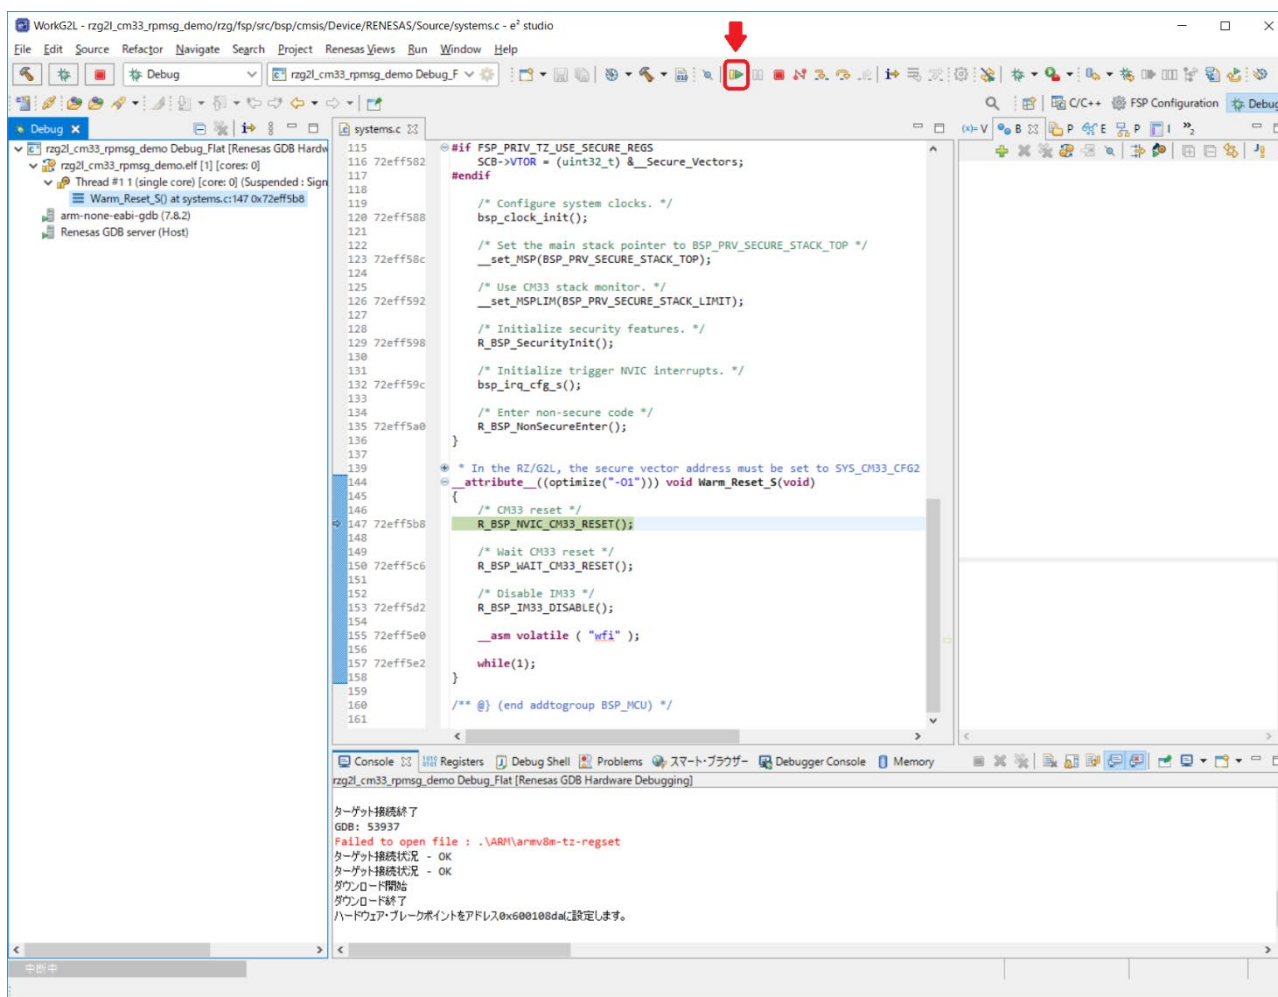

Figure 4-7. How to start to debug sample program (1)
- When the debug perspective is opened, Program Counter (PC) should be located at the top of Warm_Reset_S function. Then, you need to press the button indicated by a red arrow in Figure 4-7.